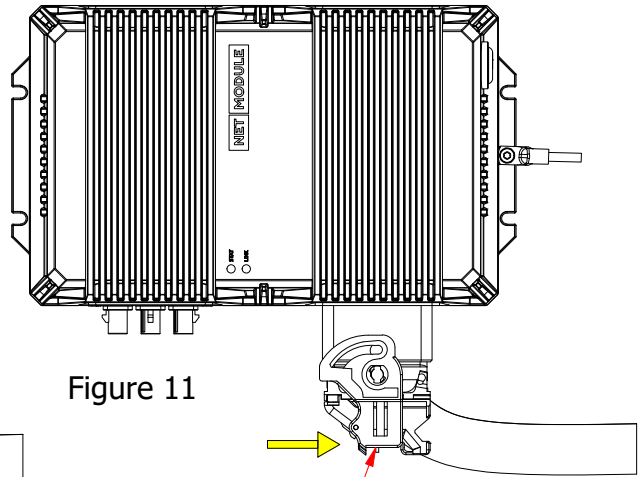

Figure 11
- 6.5 Snap-In the bracket to lock the connector (Figure 11)